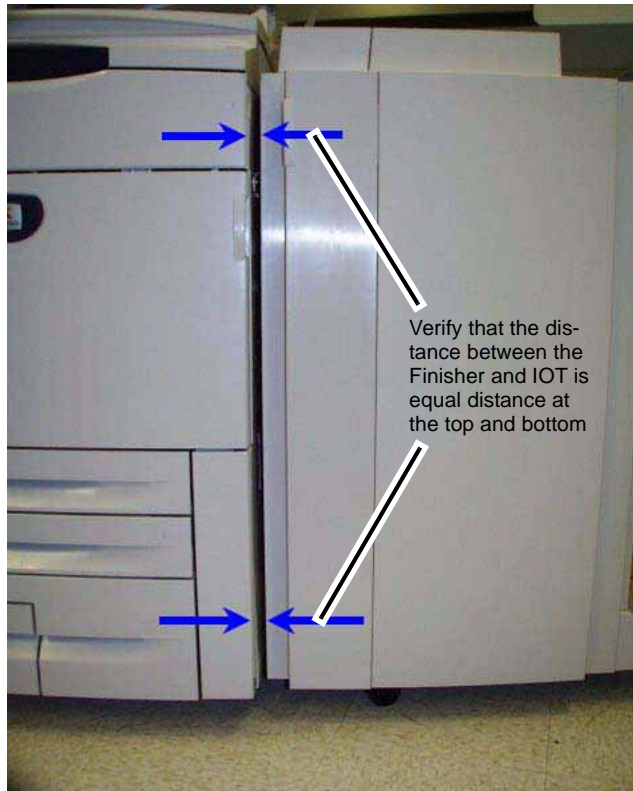

Figure 1 Verifying Finisher Level
2. Verify that the Finisher is Level and parallel with the IOT (Figure 1).